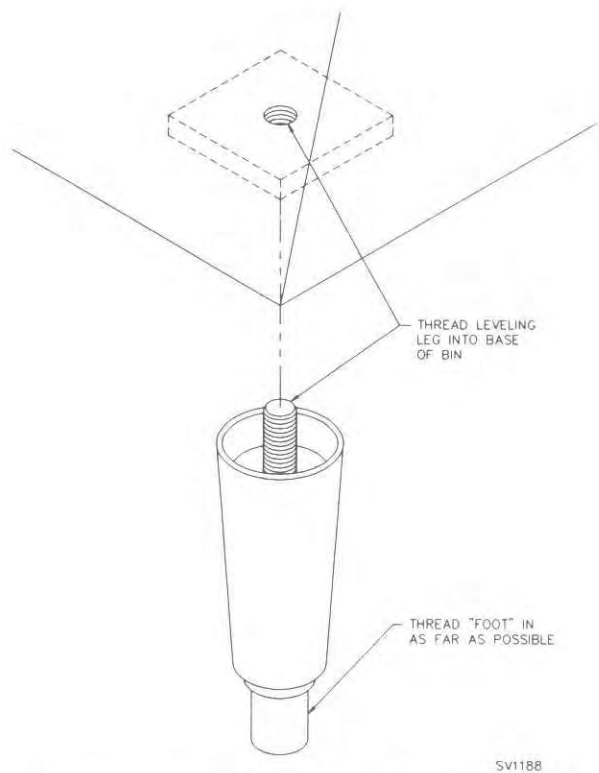

Figure 1. LEG INSTALLATION/LEVELING
1. Screw the leveling legs onto the bottom of the bin and screw the "foot" of each leg in as far as possible, Figure 1.
3. Level the bin to assure that the bin door closes and seals properly. Turn the "foot" of the appropriate leg(s) to level the bin. Use a level on top of the bin when leveling the bin, Figure 1.